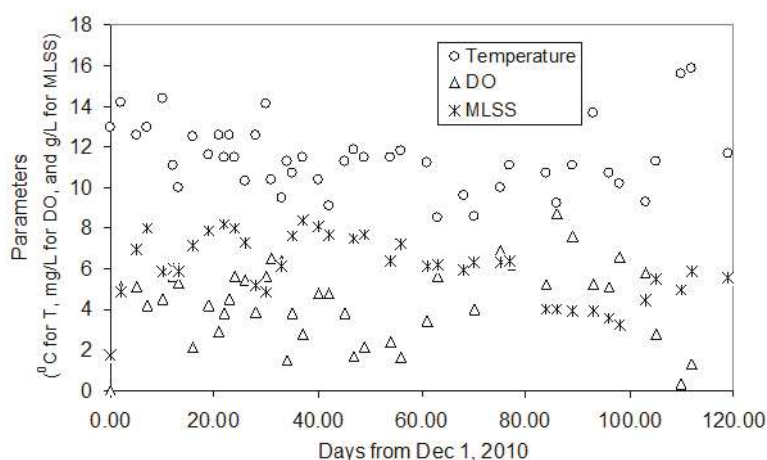

Figure 2. 20' BBR operation parameters
Figure 2 shows temperature, dissolved oxygen (DO), and mixed liquor suspended solids (MLSS) profiles. The average reactor temperature during these four months was 11.5°C, with the lowest temperature of 8.5°C. The average DO was 4.5 mg/L, typical for winter operations. The average MLSS was
As indicated in Figures 2 through 5, at a flow rate of 15,000 GPD, both the average effluent BOD₅ and TSS were less than 10 mg/L, and the average effluent ammonia-nitrogen was 0.5 mg/L, meeting future U.S. EPA regulatory needs. The effluent TN is 15 mg/L without any external carbon addition. These data